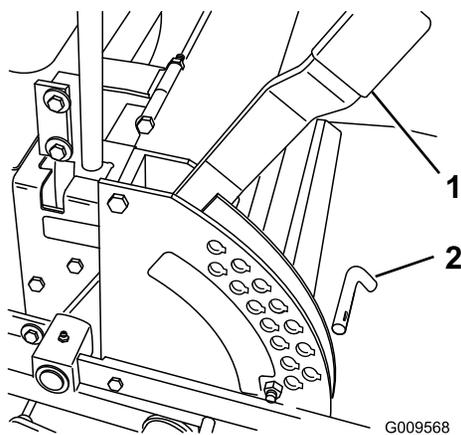

Figure 19
1. Raise the height-of-cut lever to the transport position (also the 127 mm (5 inch) cutting height position) (Figure 19).
2. To adjust, remove the pin from the height-of-cut bracket (Figure 19).
3. Select a hole in the height-of-cut bracket corresponding to the height-of-cut desired and, insert the pin (Figure 19).